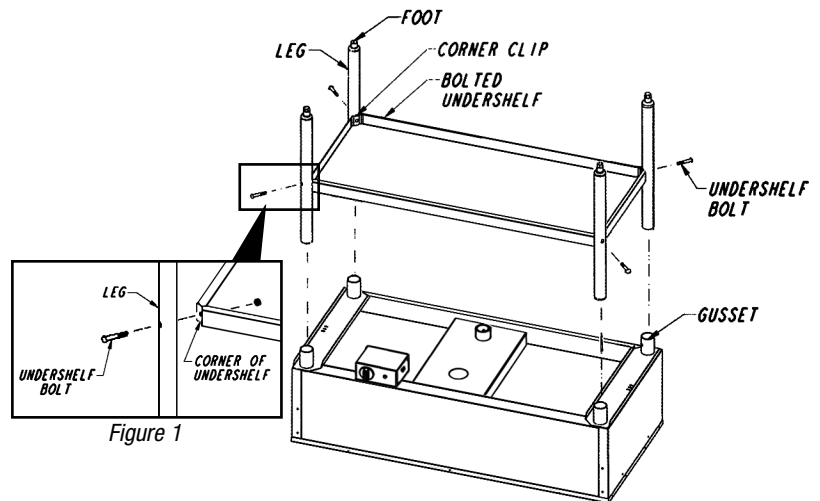

Figure 1
3. Mount undershelf to legs by inserting bolt thru hole in leg and thru hole in corner of undershelf, and tighten with hex nut (see *Figure 1*).
4. Tighten set screws in undershelf gussets to secure undershelf (see *Figure 1*) and install feet into legs, using a rubber mallet.